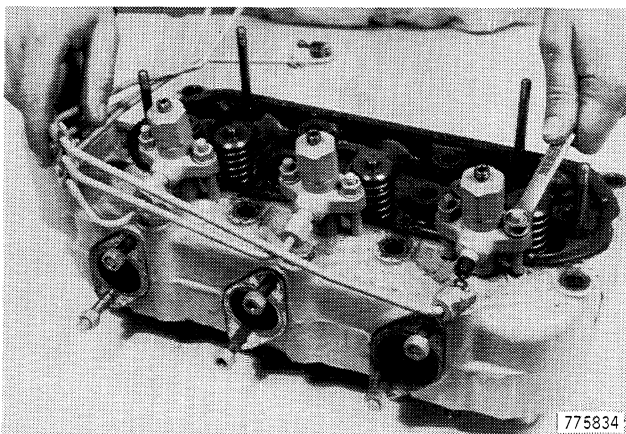

Figure 90
4. Loosen the nuts and lock washers from the studs on the injectors, Figure 90. The studs can come out instead of the nuts coming off.